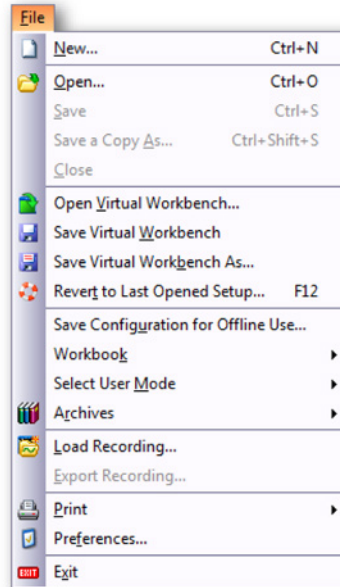

Figure 9.1: File menu
- 3 Click **Open**. Refer to Figure 9.1 "File menu" on page 332 for details.